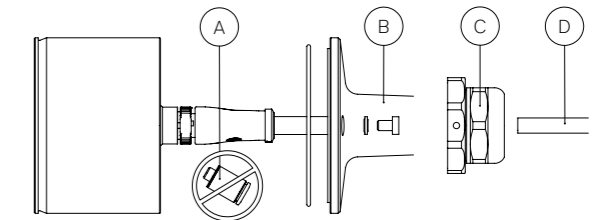

Figure 7
**!** For mounting the camera head to the holder of the flex arm mount (Fig. 7-B), the plug-in connection for the sealing air (Fig. 7-A) on the rear of
The sealing air tube (Fig. 7-D) is inserted into the 6 mm hole of the sealing in the cable gland (Fig. 7-C) for all versions of the flex arm mount. An insertion depth of approx. 20–30 mm is sufficient; the sealing air tube does not have to be pulled through the flex arm mount to the camera head. The sealing air flows freely through the entire flex arm mount to the camera head. The sealing air tube is fixed in place by clamping the cable gland closed.